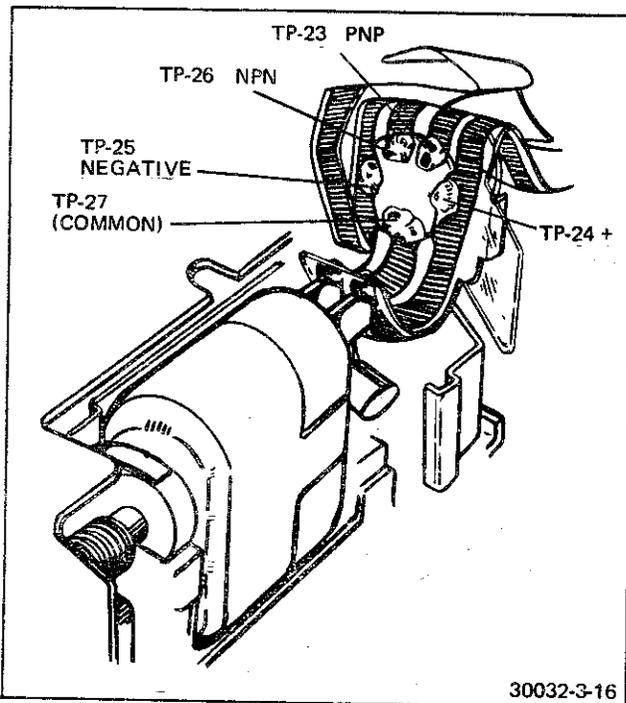

FIGURE 3-16 MCC CONNECTIONS
6. Check for a drive signal at the MCC. Set the VOM on the 1.5 VDC scale. Connect the meter to TP-25 (MCC) (-) and TP-26 (MCC NPN) (+) (Figure 3-16). Read the meter while the motor is running. The meter should read 0.6 volts. When the recock ram releases S5, the meter reading should drop to zero. If it does not, replace the MCC.